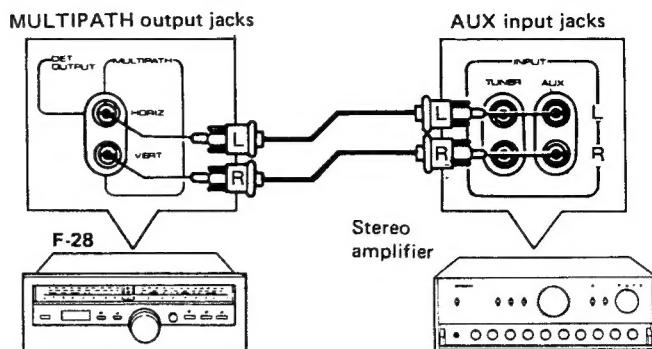

Fig. 7
1. As shown in Fig. 7, connect "HORIZ" (Horizontal) MULTIPATH output jack of the F-28 to the AUX input L (left) channel jack of the stereo amplifier, and "VERT" (Vertical) MULTIPATH output jack to the AUX input R (right) channel jack.